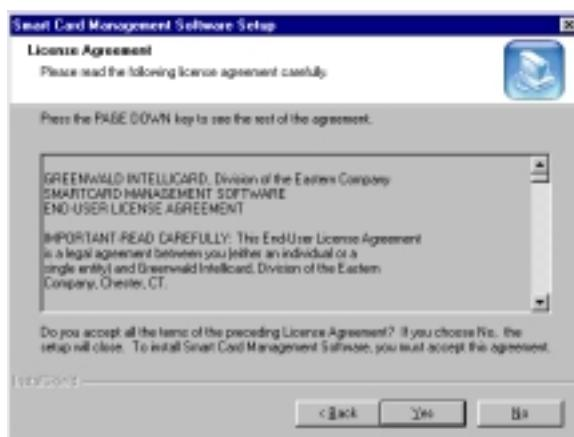

Figure 2.6 Licensing Agreement
2. A license agreement will appear. Please read this carefully and click the Yes button to accept the license conditions (Figure 2.6).